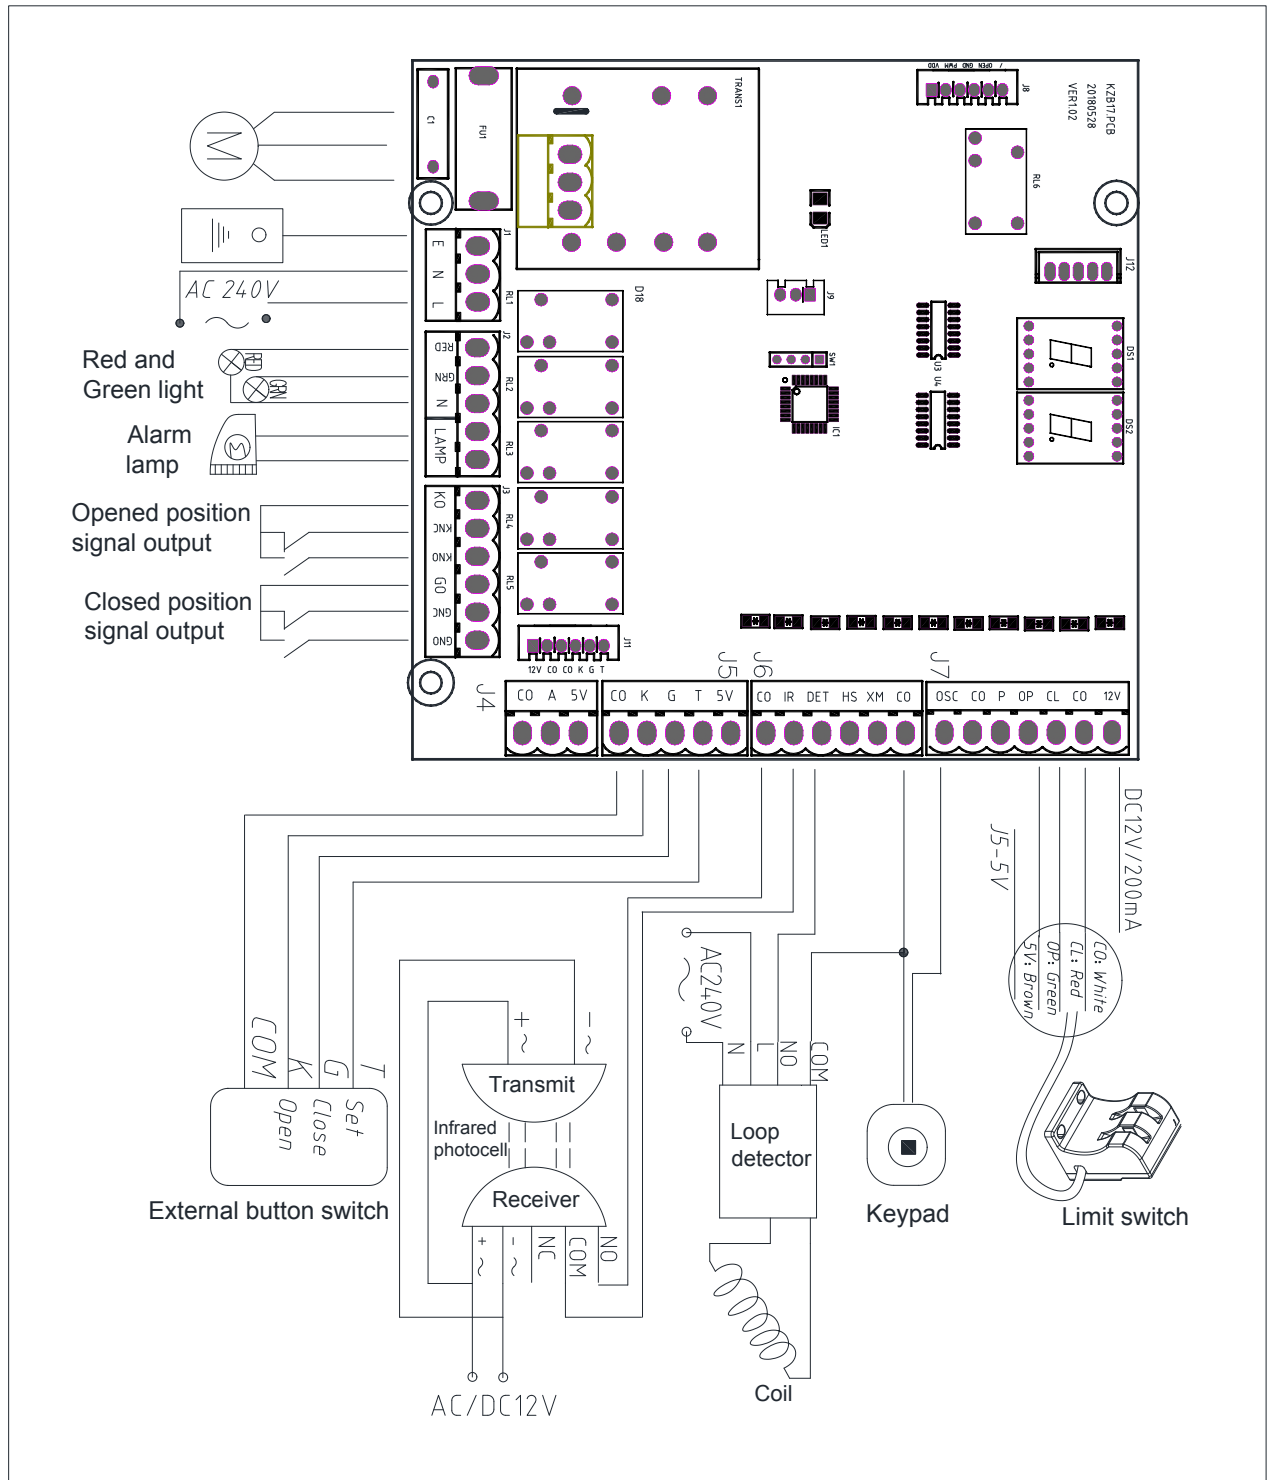

Fig.9 Control board
- **To add extra remote controls (Learning):** Press the button 'LEARN BUTTON' (see Fig.9) on the control board, the LED turns on, then press the Button 1 of remote control button, the LED turns off, press the same remote control button again, the LED flash and then stop. the learning process is finished.